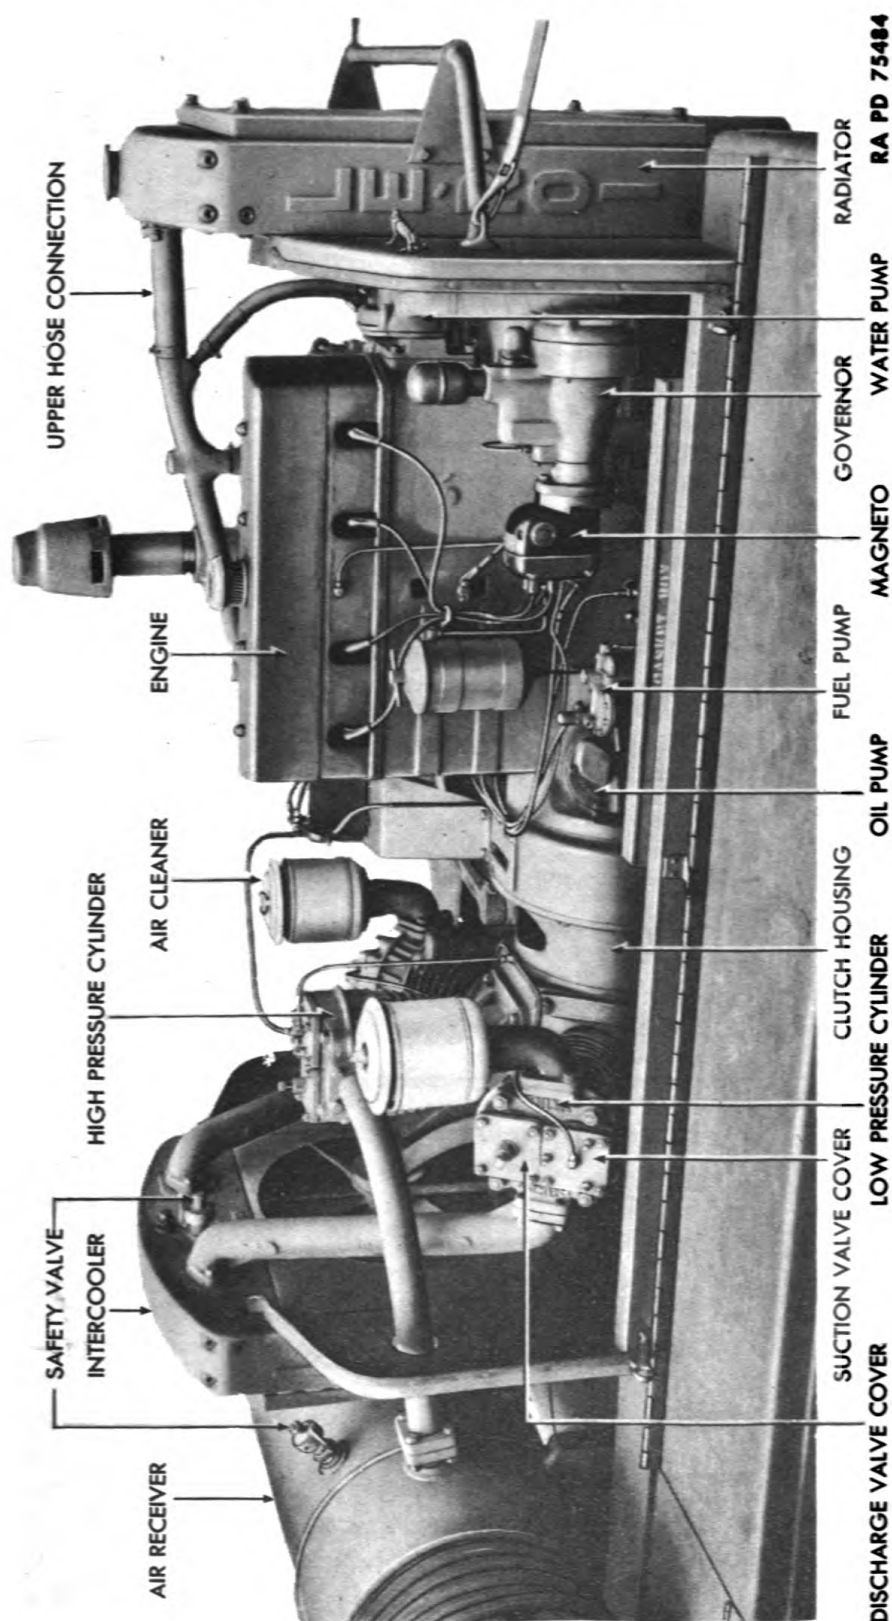

Figure 6 — Compressor Unit From Magneto Side — Hood Removed
(1) **GENERAL** (fig. 6). The air compressor is a 3-cylinder, 2-stage, air-cooled model capable of delivering 105 cubic feet of free air per minute at 100 pounds per square inch pressure at sea level. Two low-pressure outside cylinders compress air from atmospheric pressure to intercooler pressure. One high-pressure cylinder compresses air from intercooler to air receiver.
(2) **AIR CLEANERS** (fig. 6). An oil bath air cleaner is attached to each low-pressure cylinder. Air drawn from the atmosphere by the low-pressure cylinders, enters through an opening under the top of the filter. It is drawn down through oil in the air filter reservoir and up through the element. Here oil separates from the air and drains back into the bowl, cleaning the element. The cleaned air passes down through the center unit to enter the compressor cylinder. When the compressor unloads, a valve allows air which returns to the cleaner to bypass to the atmosphere without passing through the oil bath.
(3) **CYLINDER VALVES** (fig. 6). Air compressor valves are circular disk type, assembled in cages which are mounted in the cylinder heads in order to be quickly and easily removed without disturbing the cylinder heads. There is no physical difference between suction and discharge valves, valve springs, or seats. The difference in appearance is due to the design of the retaining cages which hold the discharge valve upside down as compared with the suction valve. There is no operating mechanism; the valves allow passage of air through each valve in one direction only. On the down stroke of the piston, air is drawn into the cylinder through the suction valve. On the up stroke of the piston, air is expelled from the cylinder through the discharge valve.
(4) **INTERCOOLER AND AIR RECEIVER** (fig. 6). Air from the low-pressure cylinders is discharged into the intercooler which is mounted between the compressor and the air receiver. The intercooler is a tubular, sectional type, air-cooled radiator which cools air entering the
(5) **SAFETY VALVES** (fig. 6). Two safety valves are provided to prevent trouble if the air pressure should rise above recommended limits. One safety valve is on the intercooler and is set to trip at a pressure of 50 pounds per square inch. The other is on the air receiver and is set to trip at a pressure of 125 pounds per square inch. These valves do not operate when the outfit is functioning properly. If either
c. **Clutch** (fig. 6). The air compressor is coupled to the engine through a manually operated Twin Disc clutch. The clutch is of the spring loaded double plate type which affords maximum plate wear before adjustment is required. The double plates are 11½ inches in diameter.
(1) **GENERAL** (fig. 6). A 4-cylinder valve-in-head gasoline engine drives the air compressor. With a displacement of 318 cubic inches, the engine develops a maximum of 34 horsepower at 865 revolutions per minute. Removable wet type cylinder sleeves are used. Special steel inserts are provided to minimize pitting and wear of exhaust valve seats. Both main and connecting rod bearings are babbitt lined, steel back, precision type.
(2) COOLING SYSTEM.
(b) **Radiator** (fig. 6). A flat tube and fin type radiator is mounted on the front of the unit. Air drawn through the fins by the fan serves to dissipate heat of the coolant circulating through the tubes.
(d) **Thermostat.** A thermostat set to open at 160 F is located in the radiator upper hose connection (fig. 6). It restricts the flow of coolant through the radiator until a desirable operating temperature is attained. A bypass tube is provided to allow the coolant to circulate through the engine only, with the thermostat closed.
(c) *Fuel Pump* (fig. 6). Fuel is forced from tank to carburetor by an a-c, diaphragm type fuel pump. Operation of the pump is as follows: Rotation of a camshaft eccentric actuates a rocker arm which, through linkage, overcomes the diaphragm spring pressure and depresses the diaphragm. This creates a vacuum in the pump chamber and causes fuel from the line to the tank to flow into the sediment bowl, through a screen and through a one-way valve into the pump chamber. On the return stroke, the diaphragm spring returns the diaphragm to its original position. This forces fuel from the pump chamber through a one-way valve into the line to the carburetor. When the carburetor float chamber becomes filled, the float closes a needle valve which prevents more fuel from entering the carburetor.
(f) *Governor* (fig. 6). A governor is provided to control engine speed. It is a flyball, direct acting, mechanical type. It is driven by the camshaft, and drives the magneto. It controls engine speed by opening and closing the carburetor throttle valve. It is adjusted at 865 revolutions per minute maximum, and sealed at the factory.
(b) *Magneto* (fig. 6). An American Bosch model MJC4C-334 magneto, complete with impulse coupling, is provided to produce ignition spark required to provide combustion in the engine cylinders. The magneto is the fixed spark type with one tungsten and one platinum contact point. A switch is provided on the instrument panel to ground the magneto when it is desired to stop the engine.
(5) **LUBRICATION SYSTEM.** A gear type oil pump (fig. 6) ensures full force feed lubrication to all moving parts of the engine. A screen attached to the pump intake stops large particles of foreign matter from entering the oiling system.
(12) Trip intercooler and air receiver tank safety valves (fig. 6) by hand to make certain of their operation.